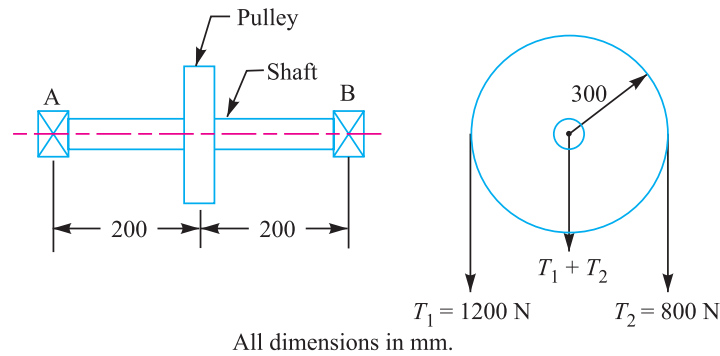

Fig. 14.17
9. Fig. 14.17 shows a shaft from a hand-operated machine. The frictional torque in the journal bearings at A and B is 15 N-m each. Find the diameter (d) of the shaft (on which the pulley is mounted) using maximum distortion energy criterion. The shaft material is 40 C 8 steel for which the yield stress in tension is 380 MPa and the factor of safety is 1.5. **[Ans. 20 mm]**